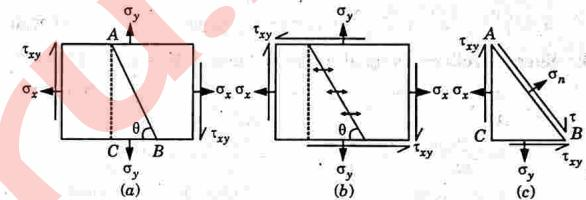

Fig. 1.32.1
- Consider a rectangular body of uniform cross-sectional area and unit thickness subjected to tensile stresses along x - x and y - y axes and accompanied by a positive (i.e., clockwise) shear stress along x - x axis as shown in Fig. 1.32.1(a).
- Now let us consider an oblique section AB inclined with x - x axis on which we are required to find out the stresses as shown in the Fig. 1.32.1.
- First of all, consider the equilibrium of the wedge ABC . We know that as per the principle of simple shear, the face BC of the wedge will be subjected to an anticlockwise shear stress equal to τ_{xy} as shown in Fig. 1.32.1(b).